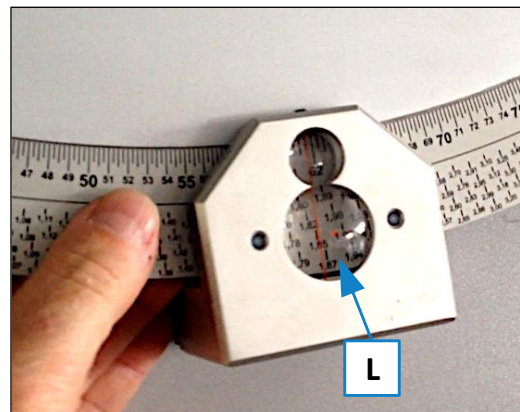

Figure 7: Set factor by scale
4. Turn the turntable as shown in $\Rightarrow$ Figure 7 with the large magnifying glass (L) to a factor of 1.8 and clamp it tight.